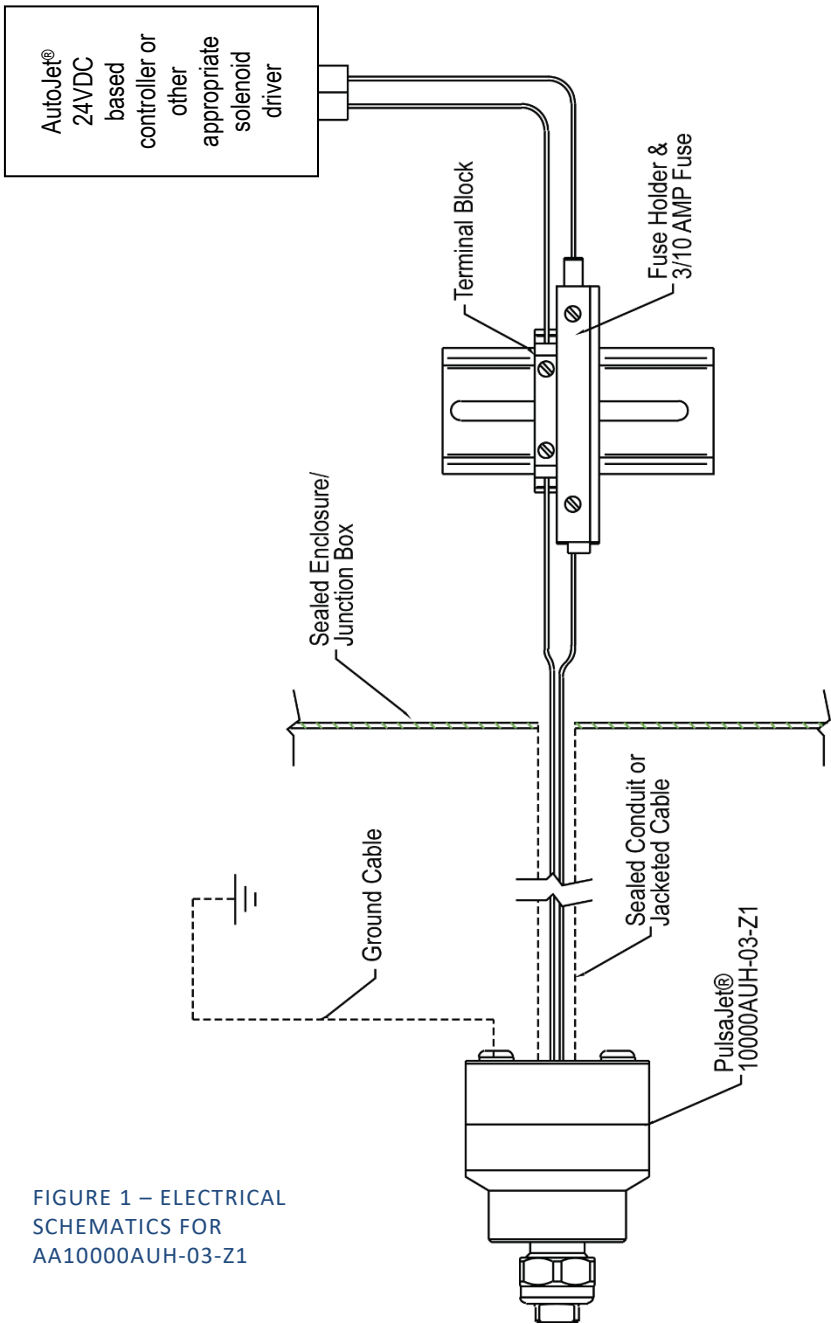

FIGURE 1 – ELECTRICAL SCHEMATICS FOR AA1000AUH-03-Z1
Electrical conduit connection for conduit fitting accepts 1/2" NPT (M) for NPT version. The conduit must protect the electrical cable from mechanical damage and terminate in a sealed enclosure or junction box appropriate for the hazardous location. For BSPT version, an Ex d rated cable gland is used with cable. The fuse holder and a 3/10-amp fuse should be used as shown in Figure 1. The ground connection of the PulaJet® 10000AUH-03-Z1 must be attached to a true ground.